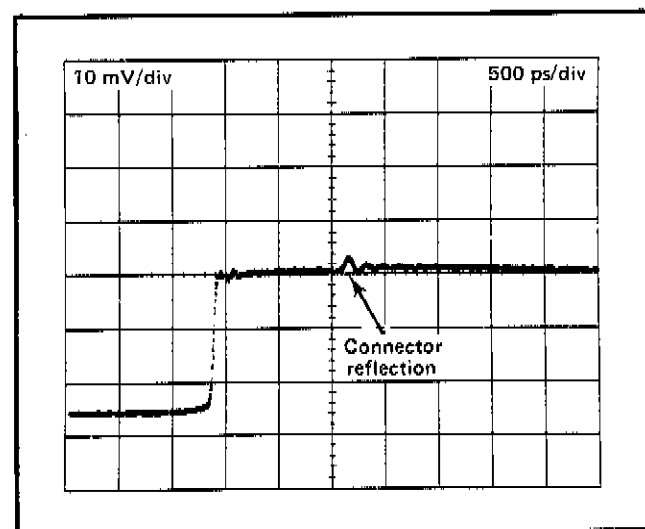

Fig. 2-4. Display with "Test Line" showing a reflection due to an incorrectly installed termination.
15. Terminate the end of the "Test Line" in 50 Ω . A precision termination firmly connected to mating connectors at the end of the "Test Line" will allow a minimum reflection at the termination point. Fig. 2-4 shows a reflection due to a loose connector.